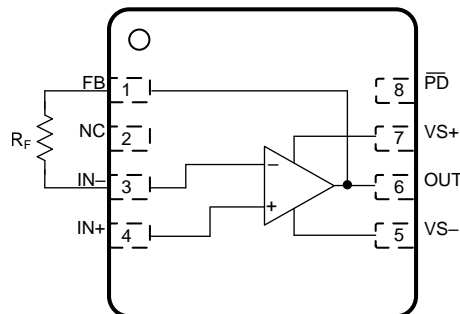

Figure 7. R_F Connection Between FB and IN- Pins
1. A feedback resistor (R_F) can connect between the FB and IN- pin on the same side of the package (see Figure 7) rather than going around the package.